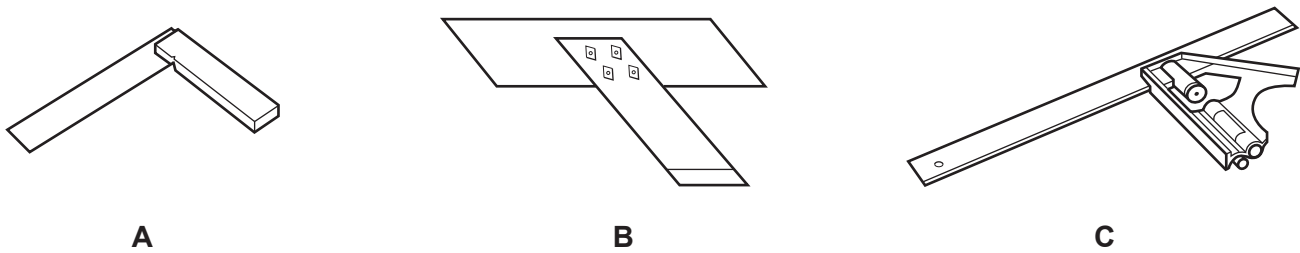

Fig. 3.1
- 3 Fig. 3.1 shows three different types of 'square', **A**, **B** and **C**, that could be used when marking out and testing.
Give the correct name for each type of square shown in Fig. 3.1.